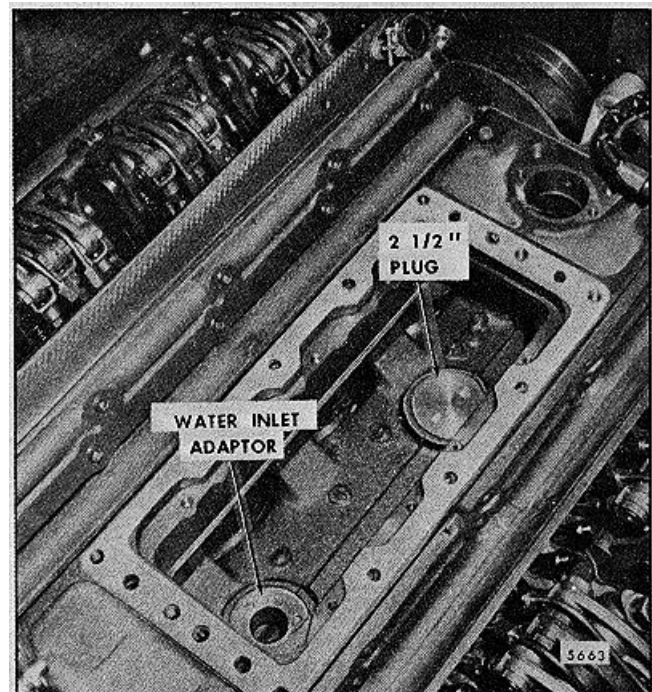

FIG. 3 - Location of Water Inlet Adaptor Plug in Cylinder Block
The top deck of the current cylinder block has been revised to accept the aftercooler. A water inlet adaptor plug replaces the rear 2 1/2 " core plug in the bottom of the cylinder block opening (Fig. 3) to supply water to the aftercooler. Tool J 25275 should be used to install or remove this adaptor plug.
2. Place the aftercooler, water outlet end first, into the cylinder block opening between the cylinders. The water inlet end of the cooler seats in the water inlet adaptor plug (Fig. 3). Install new, 5/16" -18 x 9/16"